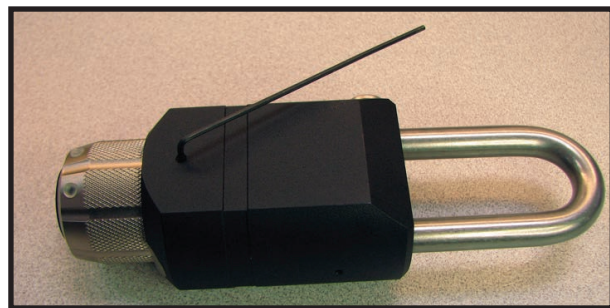

Figure 1: Allen Wrench in Pin Hole
- 2.1) Insert a 1/16" Allen wrench into the hole on the back shown in Figure 1.